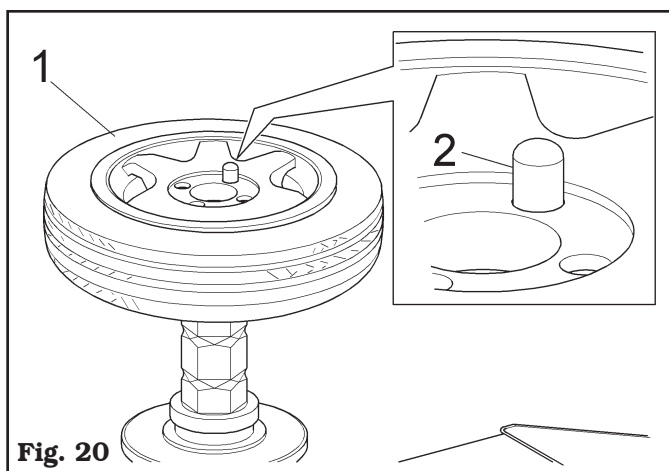

Fig. 20
2. Place the wheel (**Fig. 20 ref. 1**) in the locking platform and make sure the dragging pin (**Fig. 20 ref. 2**) enters one of the holes placed on the rim hub.